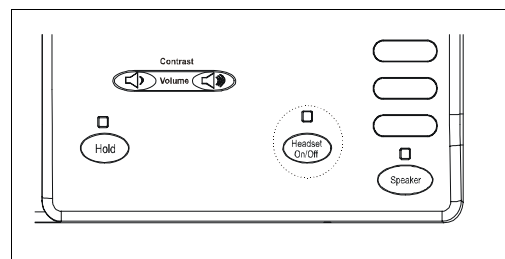

Figure 2
- Press the “HEADSET ON/OFF” key to activate the headset. The LED above the key will illuminate to indicate that the headset is on (figure 2).